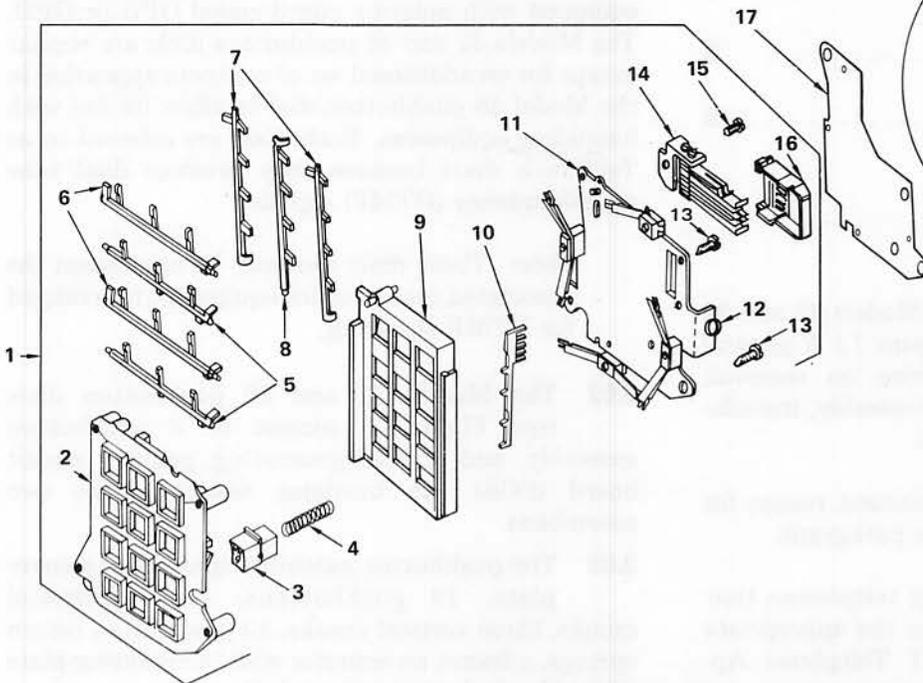

Figure 2: Models 32 and 36 Pushbutton Dials, Exploded View
2.02 The Models 32 and 36 pushbutton dials (see Figure 2) consist of a pushbutton assembly and a tone-generating printed circuit board (PCB). An insulator separates the two assemblies.